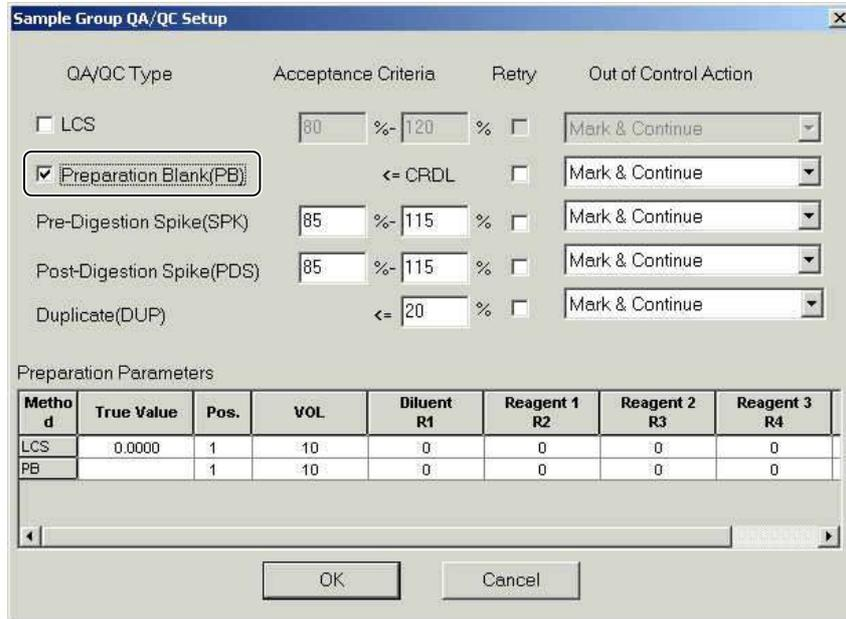

Fig. 6.7 [Sample Group QA/QC Setup] dialog box
- (3) In the window shown in Fig. 6.7, tick the [Preparation Blank (PB)] check box. If the ASC is used, enter the preparation parameters such as position and sample volume in the preparation parameters table located at the bottom of the window.
- (1) For the LCS settings, tick the [LCS] check box in the [Sample Group QA/QC Setup] dialog box shown in Fig. 6.7. Enter the known concentration in the preparation parameters table at the bottom of the window. If the ASC is used, also enter the preparation parameters such as position and sample volume.